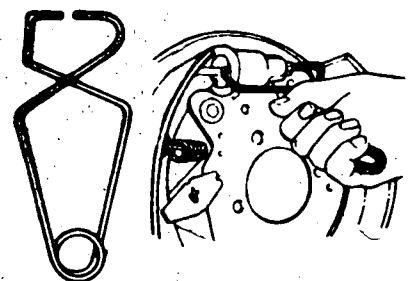

Fig. 3
- c) Push in the pistons of the brake cylinders with a spring clamp. (fig. 3).